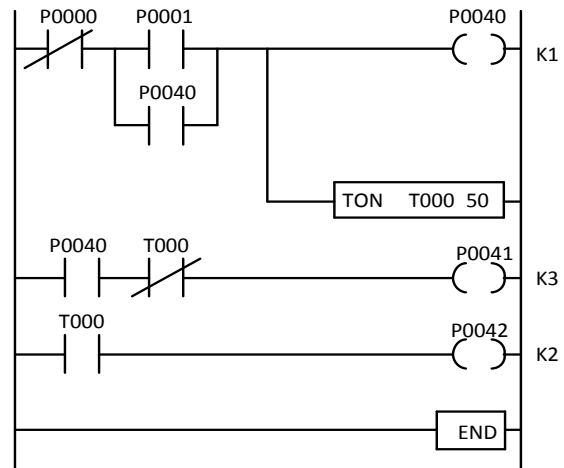

Figure 2.10 Conventional Diagram with Relay and Ladder Diagram
- AND refers to input changed to be series with the previous input. In other words, this instruction is used when the contact position (in ladder diagram) is connected with the previous contact in series way. Figure 2.10 shows the symbol of AND.